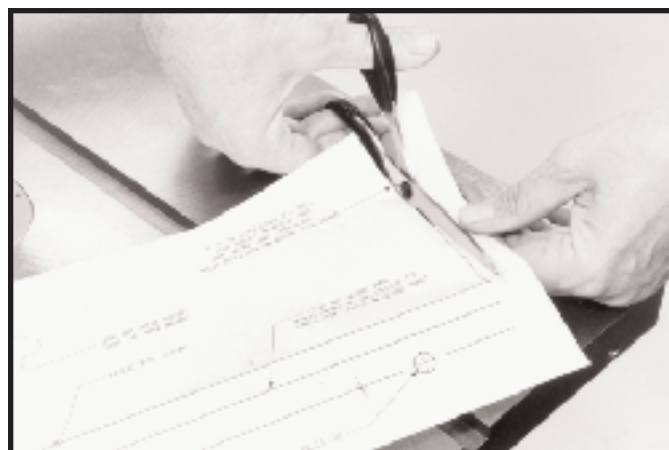

Fig. 23
9. Cut the template along the line marked 0 (zero on guide rail scale), as shown in Fig. 23.